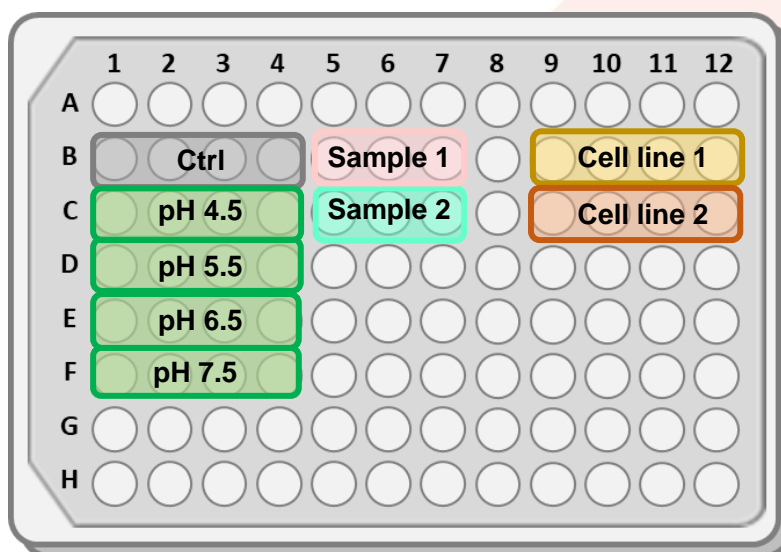

Figure 1: Example of 96-well plate configuration with controls and calibrators.
- 1- Seed cells of interest for chips internalization in a multi-well plate following standard protocols. See an example of plate template in Figure 1: *ctrl SPACHIPS* are non-fluorescent chips; rows C, D, E, F are intracellular pH calibration wells where measurements should be interpolated; *cell line 1* and *2* are the cells for the desired tracking which will be seeded after SPACHIPS internalization in wells *sample 1* and *2* creating the co-culture.
5- In the multi-well plate, aspirate the cell medium and add 100 μL of CONTROL SPachip[®] dilution to the control wells (Figure 1). Vortex the tube right before use. Add 100 μL of ASSAY SPachip[®]-containing fresh culture medium per well to the corresponding cell line (*cell line 1* and *2* in the example). Homogenize the solution by pipetting up and down often.
7- Recover the cells with standard protocols and co-culture them in wells *sample 1* and *2* (Figure 1). These wells contain the co-cultured cells with internalized chips for correct tracking of each cell subtype and pH measurements of interest.
8- If quantification of the measurements is needed, use some wells of the plate for calibrating the system (see example of plate template below in Figure 1: controls and intracellular pH calibrators in columns 1- 4). In such case, follow calibrator manufacturer's instructions.